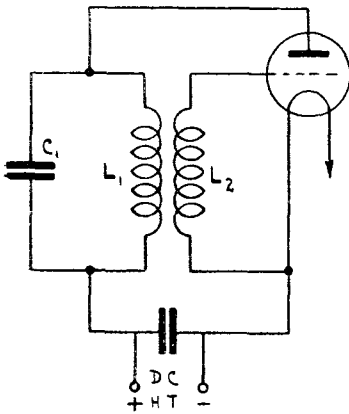
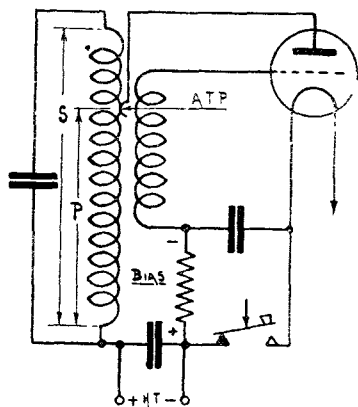
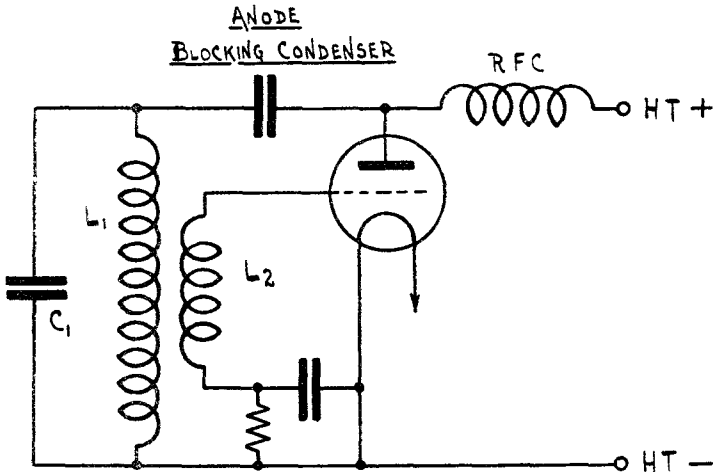

FIG. 51.—Simple oscillator.
FIG. 53.—Practical oscillator for L.F.
FIG. 57.—Parallel fed oscillator.
(b) In fig. 51, L_1 , C_1 , is an oscillatory circuit forming the anode load of the self-excited R.F. amplifier valve, and L_2 is the grid coil coupled to L_1 . In order to commence oscillations, C_1 must be charged. As soon as the H.T. circuit is switched on, the anode current rises, and the induced E.M.F. which it produces across L_1 will charge the condenser. The resultant oscillation will be feeble and would normally soon die away owing to the resistance of L_1 , etc.; as L_2 is coupled to L_1 , however, voltages will be induced in L_2 , and these will be applied to grid and filament of the valve. The grid/filament voltage now fluctuates at the same frequency as the oscillation in L_1 , C_1 , and this voltage will cause the anode current to vary through L_1 . This current will assist the oscillatory current in L_1 , C_1 , and oscillations will be maintained if the above conditions are fulfilled.
2. Practical Circuits.—The simple valve oscillator circuit of fig. 51 is similar to Meissner's valve oscillator, which also employed mutual inductance for coupling between anode and grid circuits; another variation is shown in fig. 36. The circuit of fig. 51 is insufficient for modern requirements, and a practical circuit is shown in fig. 53.
3. Supply or "Feed" Methods.—All the circuits of figs. 51 to 56 are "series fed", i.e. the H.T. current passes through the oscillatory circuit, which is, therefore, at a high D.C. potential. If the "L.C." circuit is in parallel with the valve and the H.T. supply, as at fig. 57, the oscillator is said to be "parallel" or "shunt fed". A "blocking" condenser and R.F. choke are necessary in fig. 57, the condenser to prevent L_1 from short circuiting the D.C. supply, and the choke to prevent the low impedance of the D.C. supply short circuiting $L_1 C_1$. "Parallel feed" is not used to any extent in R.A.F. sets.